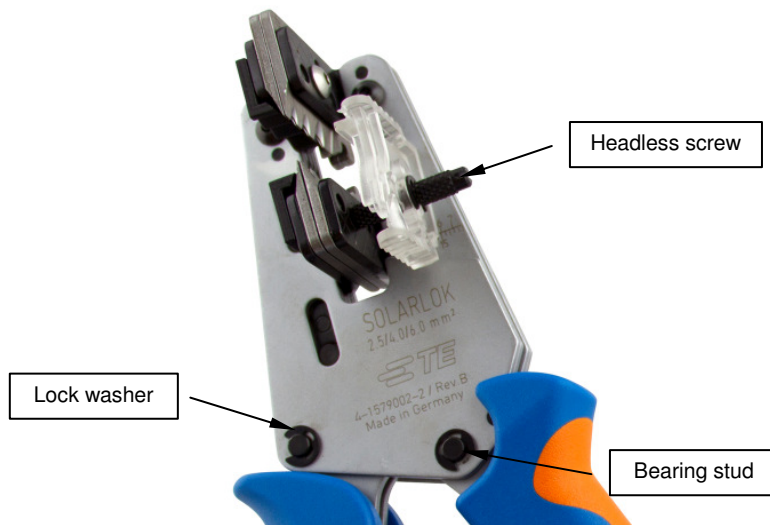

Figure 9
2. Make sure the bearing studs are inserted and held in position by the lock washers (see Figure 9). The headless screw retaining the adjustment wheel must be secure (see Figure 9).